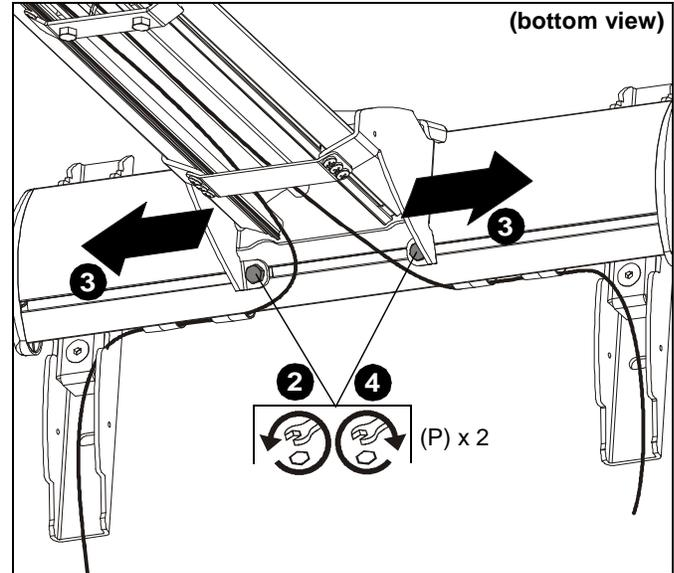

Figure 32
2. Loosen two 1/4-20 x 5/8" hex head cap screws (P) on underside of mounting bracket. (See Figure 32)
3. Adjust projector arm laterally to desired position. (See Figure 32)
4. Tighten two 1/4-20 x 5/8" hex head cap screws loosened in Step 4. (See Figure 32)